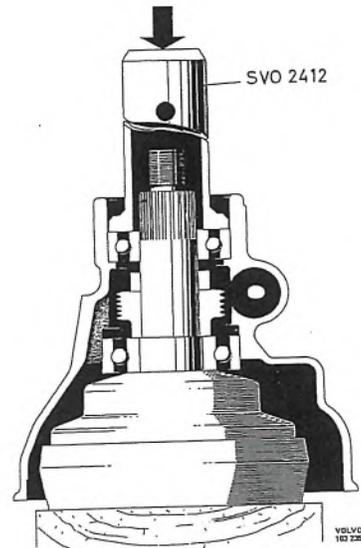

Fig. 4-43. Installing output shaft
3. Place a wooden block under the output shaft as support. Fit the speedometer driving gear and spacer. Press on the rear casing with drift 2412, see Fig. 4-43.